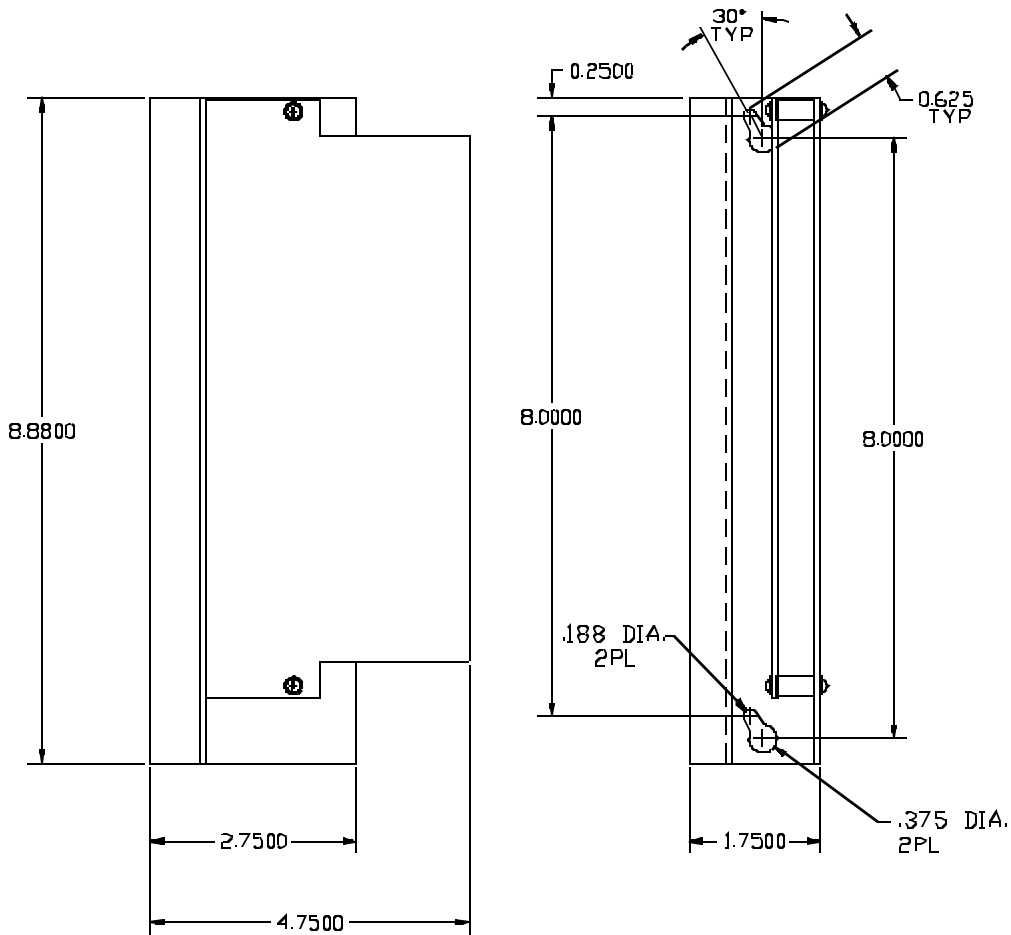

FIGURE 2-3. CONTROLLER MOUNTING DIMENSIONS, MODELS 2235 AND 2236
1. Mount the controller on a panel in a vertical position using the two holes in the controller mounting bracket. Mounting dimensions are shown in Figure 2-3, page 2-8.